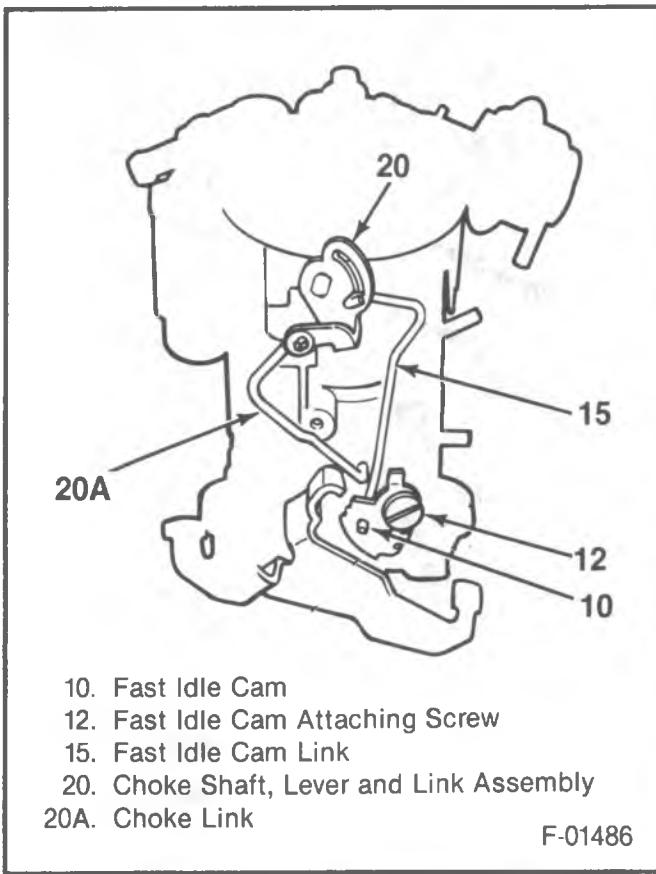

Figure 13- Fast Idle Cam and Cam Link
- Remove or Disconnect (Figure 13)
- Fast idle cam attaching screw (12), cam (10) and cam link (15).
- Disconnect fast idle cam link from choke shaft lever (20).